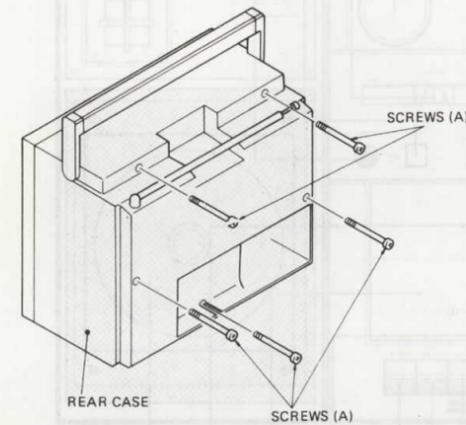

Fig. 1
- 1) Remove the lid to the battery case and remove the 5 rear case fixing screws (A) shown in Fig. 1.